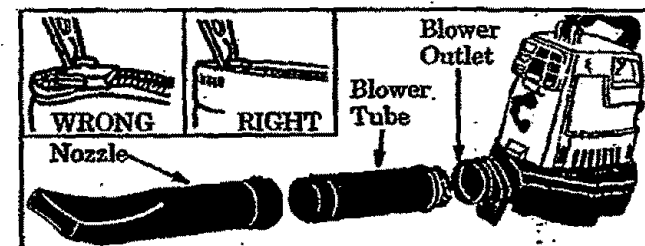

Figure 4
3. Close the zipper on the bag. Make sure the zipper is closed completely and the zipper seam is tucked toward the inside of the bag. Figure 4 (inset).
1. Remove the blower tube from the engine. Figure 4.
12. Never run the unit without the proper equipment attached. When using your unit as a blower, always install blower tubes. When using your unit as a vacuum, always install vacuum tubes and collection bag assembly. Make sure collection bag assembly is completely zipped as shown in Figure 4.